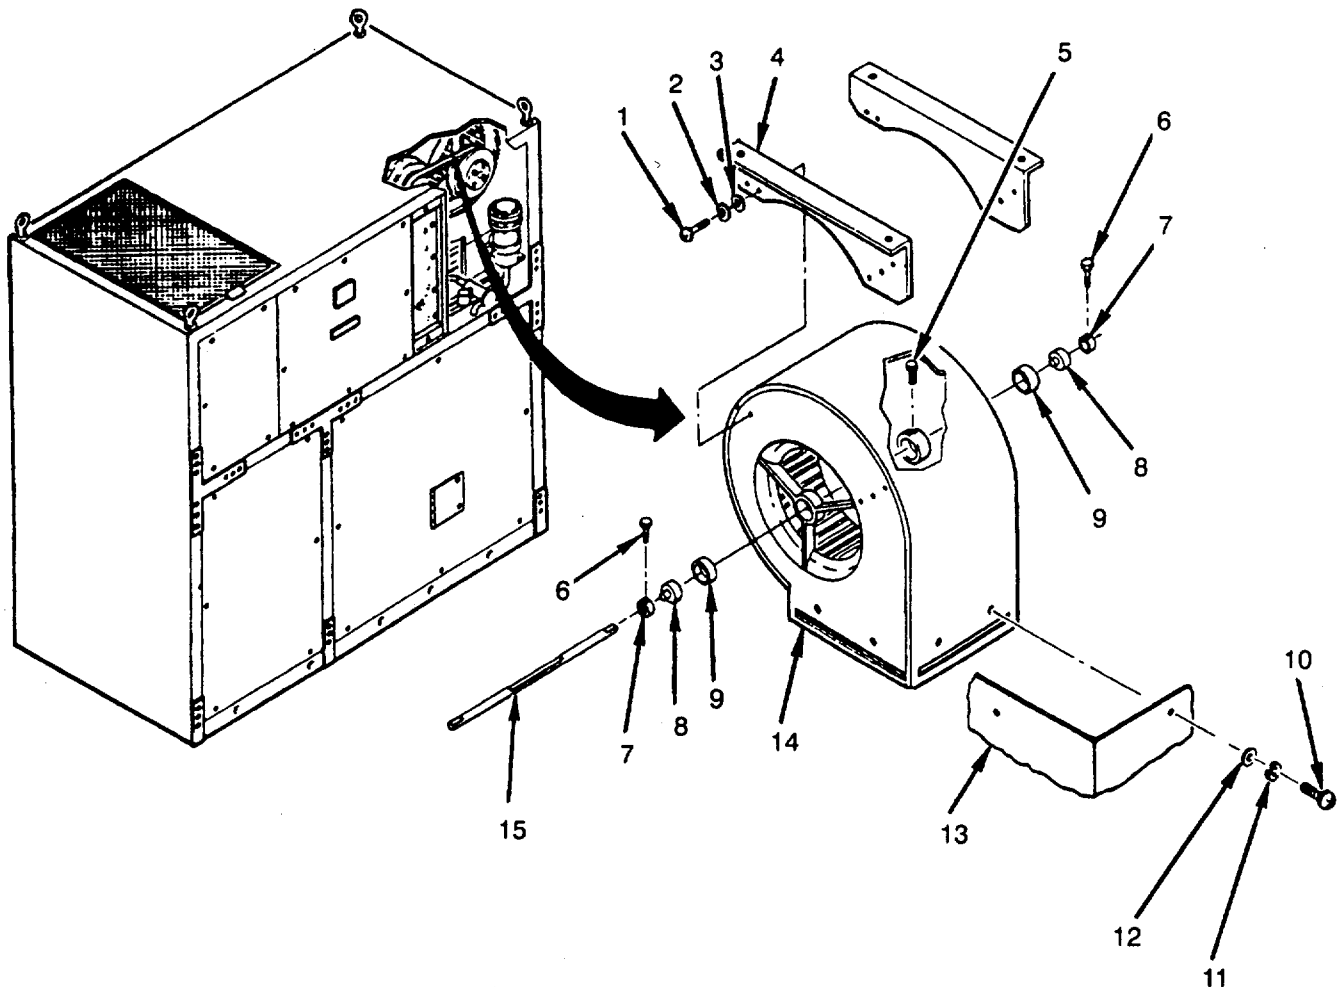

Figure 4-72. Circulator Fan (Evaporator)
1. Inspect for noise or missing mounting hardware (see Figure 4-72).